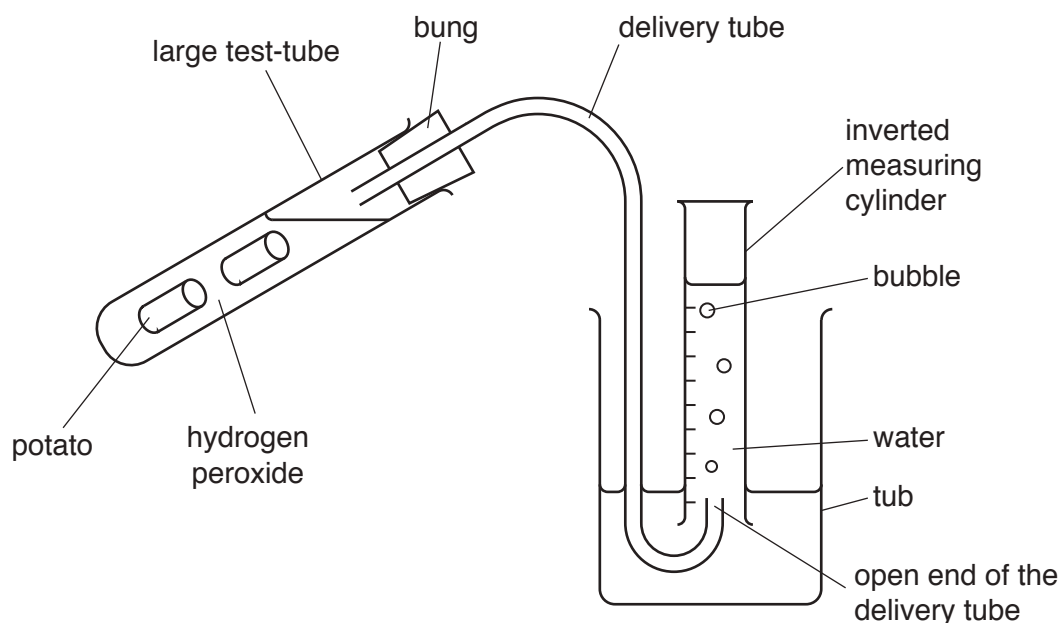

Fig. 1.2
Step 4 A 25cm³ measuring cylinder was submerged in a tub of water and allowed to fill with water. The measuring cylinder was turned upside down keeping the open end under the water in the tub as shown in Fig. 1.2.